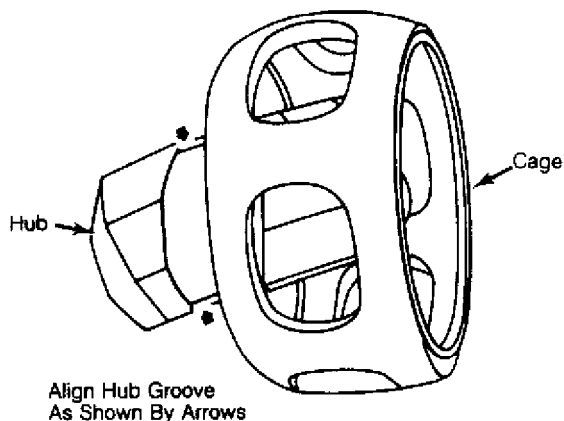

Fig. 2: Removing Volkswagen Inner CV Joint Ball Hub
2) Pivot hub and cage assembly out of inner joint. Push out and remove balls. Align ball hub grooves with cage and remove hub. See Fig. 2.